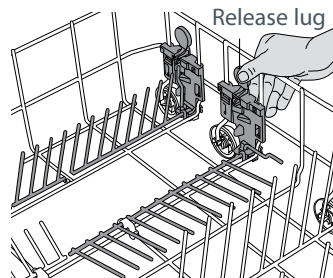

Fig. 7 Folding away a support rod section
- To fold a support rod section away, simply press on its release lug, as shown in Fig. 7.